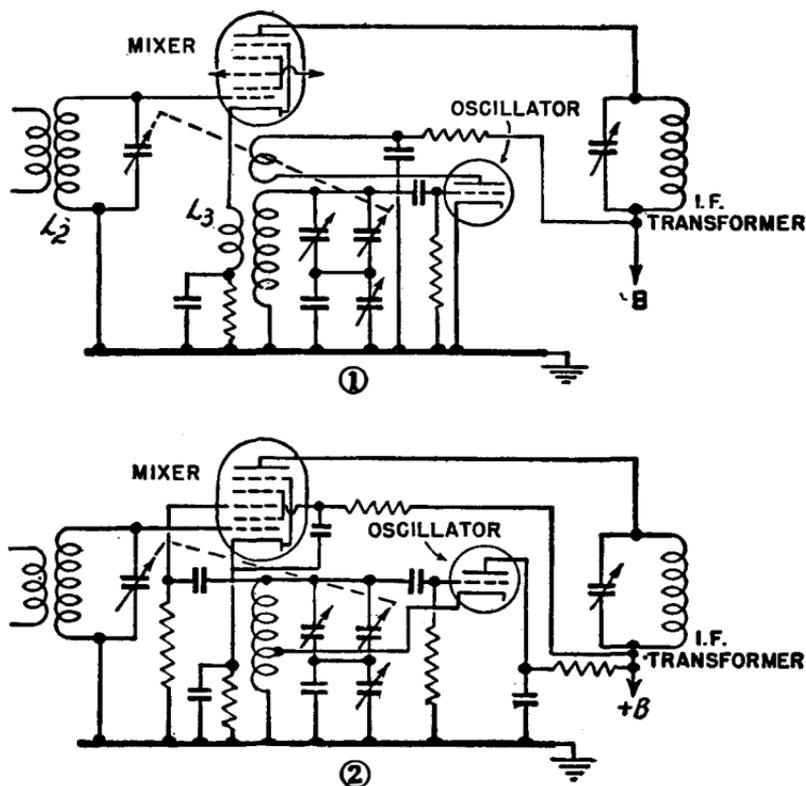

Figure 102.—Local oscillator-to-mixer coupling methods.
Two other ways of coupling the mixer and local oscillator are shown in figure 102, where a pentagrid mixer and triode oscillator are used. Figure 102(1) shows the local oscillator coupled to the mixer tube by coil L_3 in the cathode circuit of the mixer tube. The r. f. voltage induced in coil L_3 causes the plate current of the mixer tube to fluctuate at this frequency. The incoming signal induced in coil L_2 in the grid circuit of the mixer also affects the plate current. These two frequencies are mixed together and the beat between them, which is the i. f. frequency,